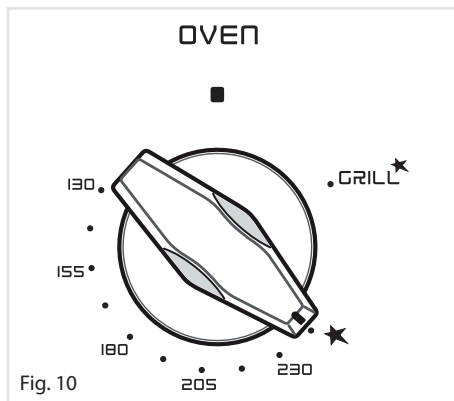

Fig. 10
2. Lightly press and turn the thermostat knob anti-clockwise to max position "★" (fig. 10).